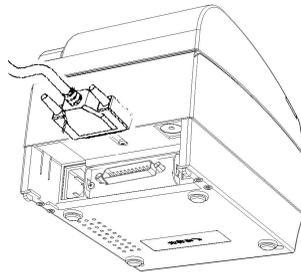

Fig.4.4-1
- 2) Connect the suitable interface cable with the correct connector to the connector of the interface board of the printer plug screws (Serial interface) or clip springs (Parallel interface) as shown in Fig. 4.4-1.